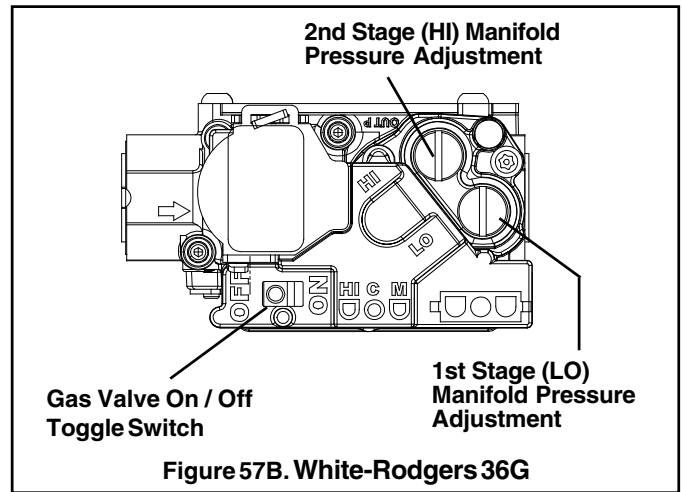
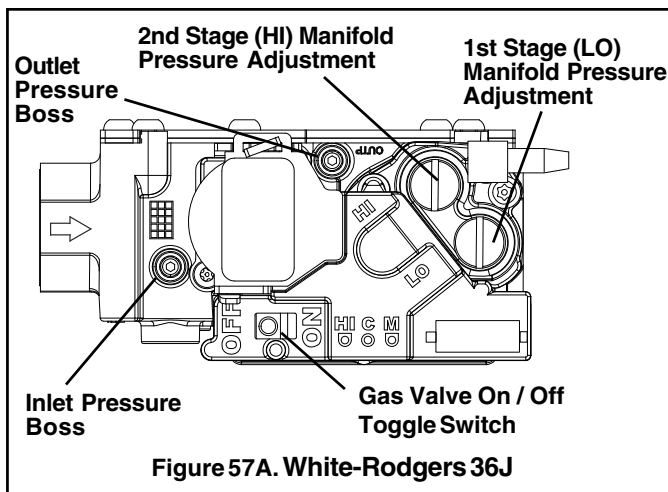

Figure 57B. White-Rodgers 36G
Figure 57A. White-Rodgers 36J
2. Attach a manifold pressure gauge with flexible tubing to the outlet pressure boss marked "OUT P" on White-Rodgers gas valve model 36G or 36J. See Figure 57A for White-Rodgers gas valve model 36J. See Figure 57B for White-Rodgers gas valve model 36G.
5. Adjust 1st stage gas heat by removing the low (LO) adjustment regulator cover screw.